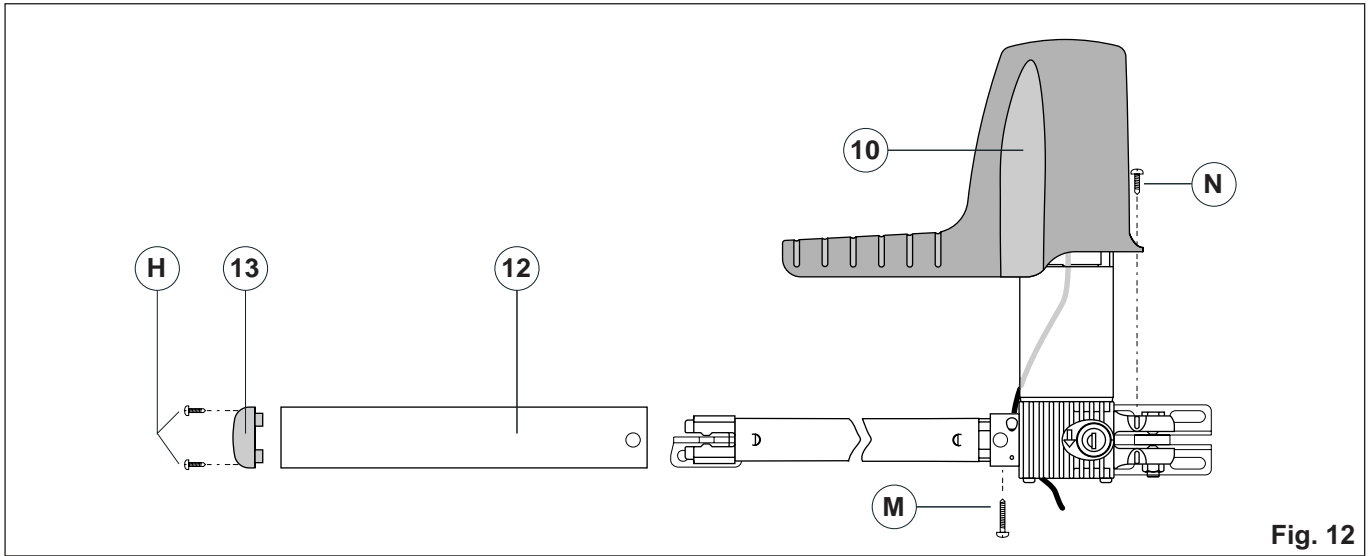

Fig. 12
- 3.10 Fit the tube cover [12] with the plug [13] and gasket and secure it to the geared motor by means of the screw [H] and [M] provided (fig. 12). *Fit properly, making sure that the slits on the closing plug [13] are turned downwards so as to favour water drain-off.*
- 3.11 Secure the casing [10] into place by means of screw [N] paying attention to the position of the wire (fig. 12).